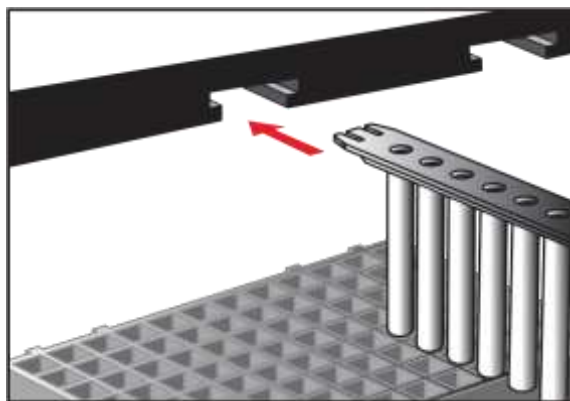

Figure 3: Inserting the rods plastic strip to its position
6. Insert plastic road strip in the strip holder in accordance to the tested samples plate and push it to the end (figure 3).